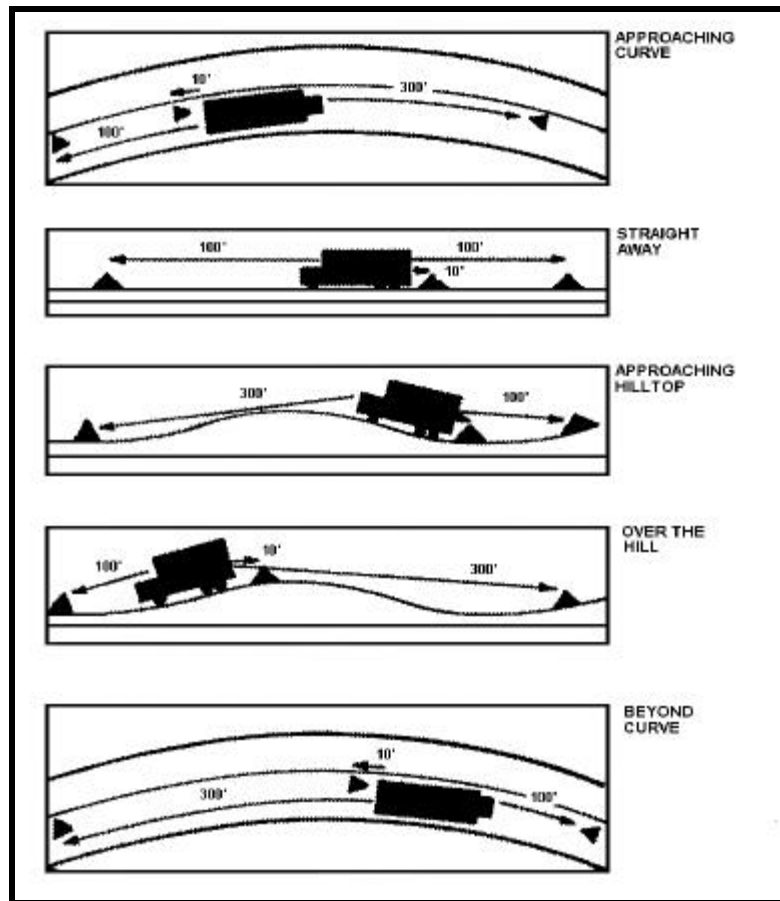

Figure 5-7. Halts under varying conditions due to mechanical failure
- If the vehicle is stopped within 300 feet of a curve, crest of a hill, or other obstruction to view, the warning device in that direction should be placed so as to give ample warning to other users of the highway. However, the device should be placed not less than 80 paces or more than 120 paces from the vehicle (see Figure 5-7, page 5-22).